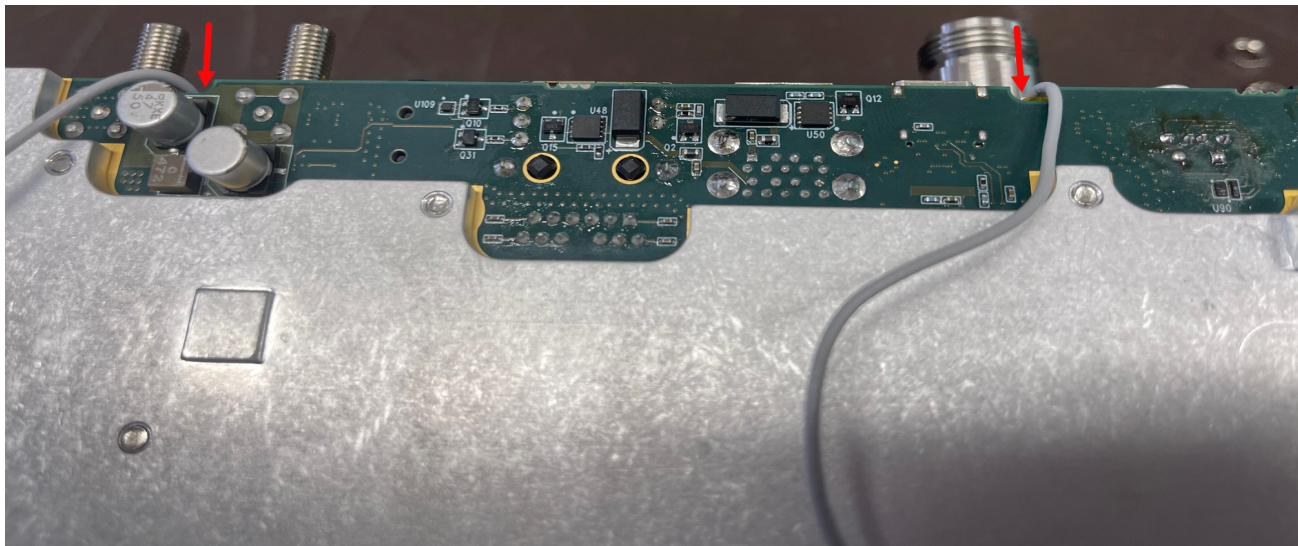

Figure 5-20. Reassembling the unit
1. Ensure to carefully align the cables of the Wi-Fi antenna into the little grooves of the Main PCB to prevent the Wi-Fi antenna cables from being smashed or crimped. See Figure 5-20.